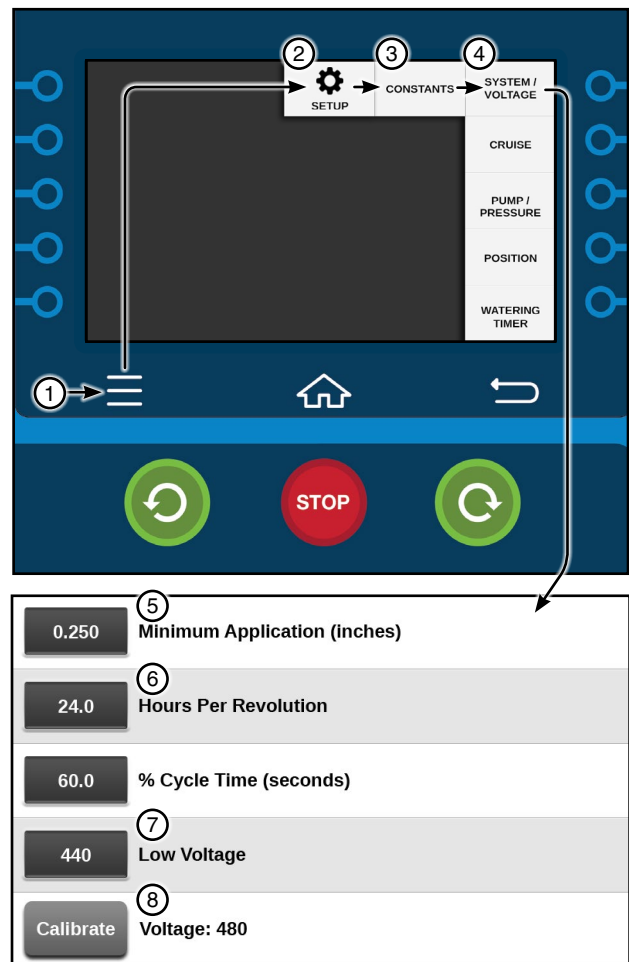

Figure 37-1
1. Go to the Constants screen to set the pivot minimum application, time per revolution, and voltage. See Figure 37-1.